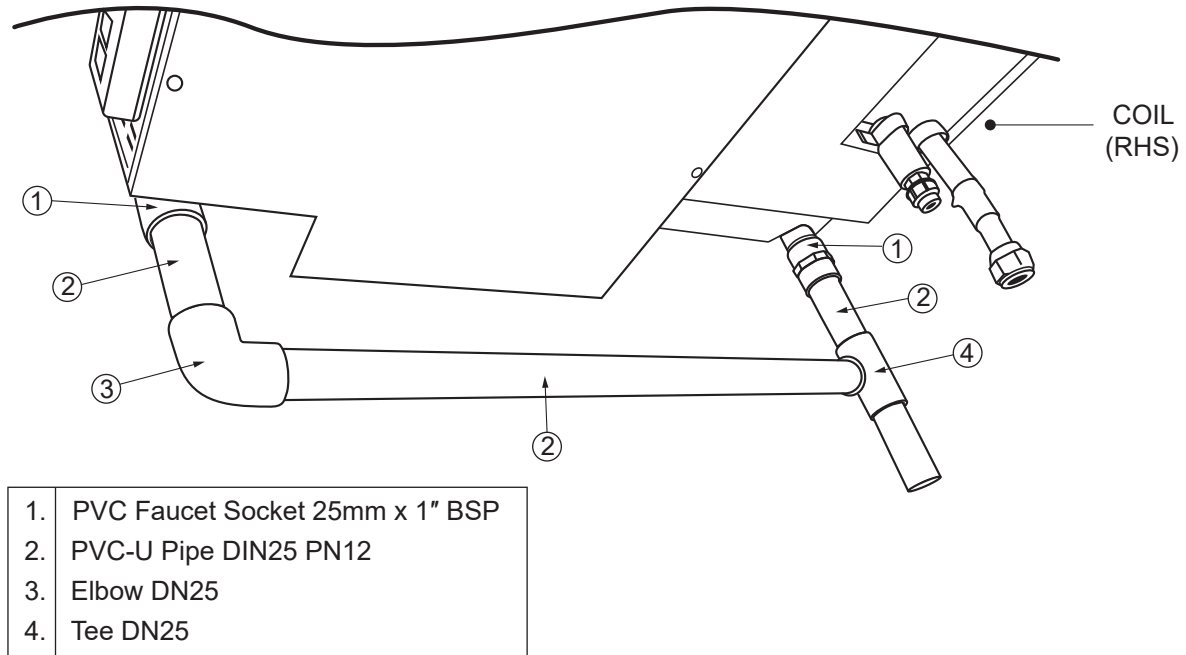

Figure 21. Verify water discharge
2. To connect the condensate drain to the discharge spigots on the fan coil unit, use PVC faucet sockets as detailed in Figure 21 on page 25. All other joins must be primed and bonded with PVC cement. Insulate the condensate drain to prevent moisture forming on the outer surface of the drain.